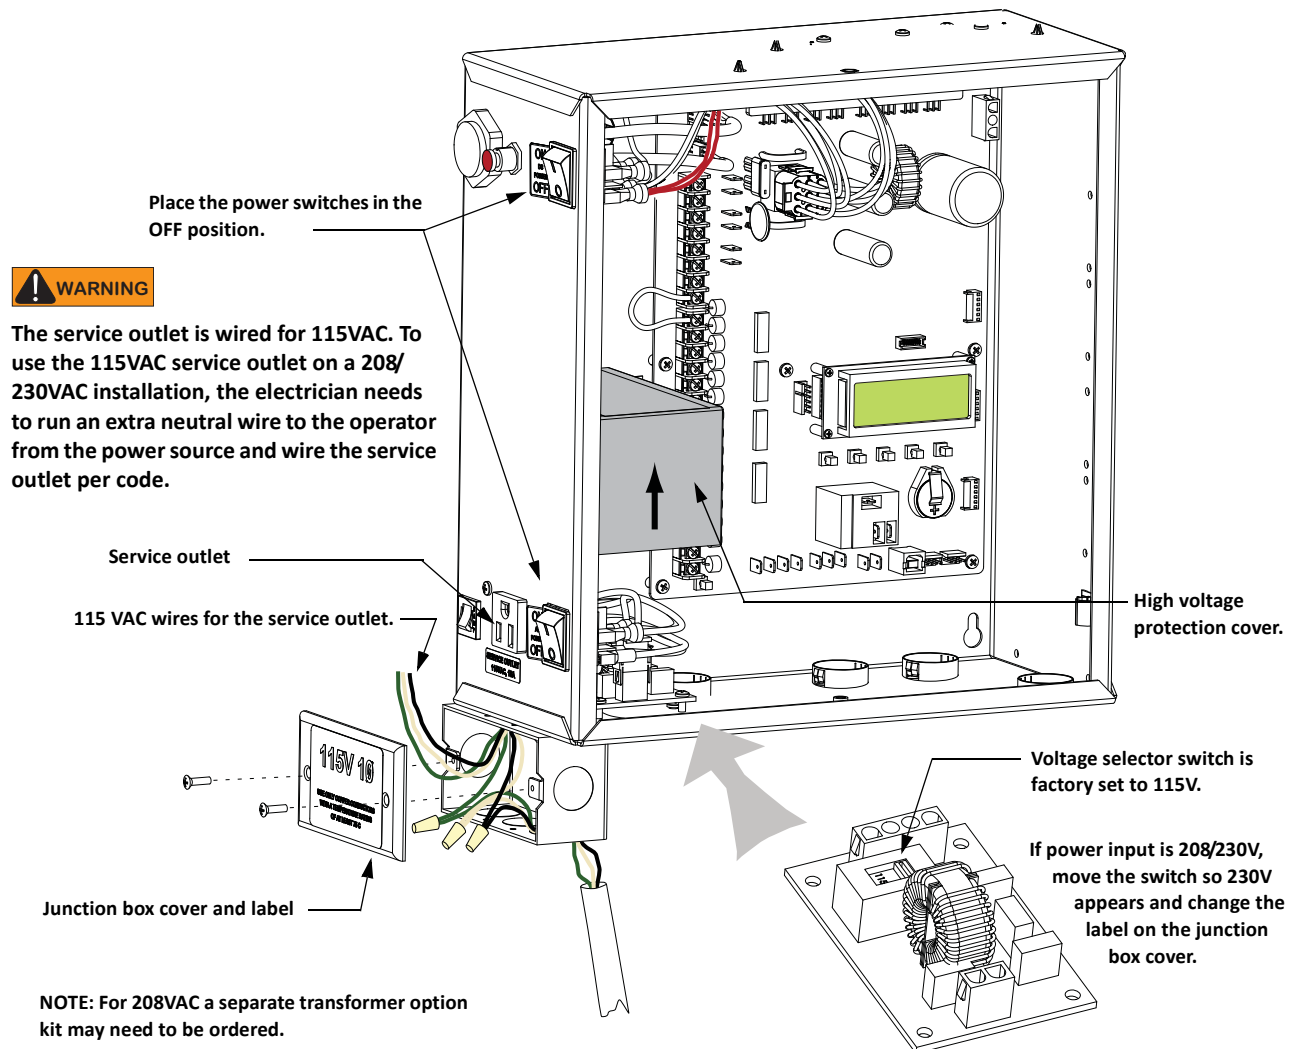

Figure 2-2.
Turn off AC power at the source (circuit breaker panel) before accessing the wires in the SwingSmart junction box. Follow facility Lock Out/Tag Out procedures. Make sure both the DC and AC power switches, on the side of the SwingSmart control box are in the off position. See Figure 2-2.
Wiring of gate operators must conform to the NEC standards and comply with all local codes. If you plan to connect to 208/230VAC power, read the WARNING in Figure 2-2. The voltage selector switch on the AC Power board must be moved to the 230V position or damage to the operator will occur and void the Limited Warranty.
2. Access the input power wires and service outlet wires by removing the two Phillips-head screws that secure the high voltage junction box cover. See Figure 2-2.
4. Access the input power wires by removing the two Phillips-head screws that secure the High Voltage Junction Box Cover. See Figure 2-2.